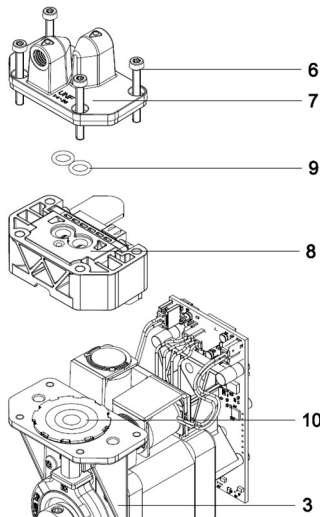
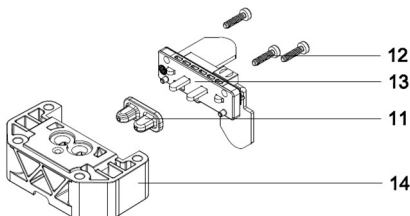

Fig. 6
Fig. 7
1. Loosen the housing screws (1) and remove the housing cover (2).
2. Remove the pump (3) from the housing (4).
3. Loosen (6) head screws. (Fig. 6)
4. Remove the connection plate (7), valve assembly (8), and O-rings (9).
5. The surface of the diaphragm (10) can be cleaned. The diaphragm (10) may only be replaced by KNF, as the diaphragm clearance must be adjusted with washers!
6. Thoroughly clean the valve assembly (8) with integrated valve (11) of all residues. Blow out the fluid channels with compressed air while operating the valve plates by hand.
7. If the valve (11) is to be removed, loosen the three valve drive screws (12) and the valve drive assembly (13) can be pulled out. (Fig. 7)
8. Carefully pull the valve (11) off the metal tongues using a flat-bladed screwdriver.